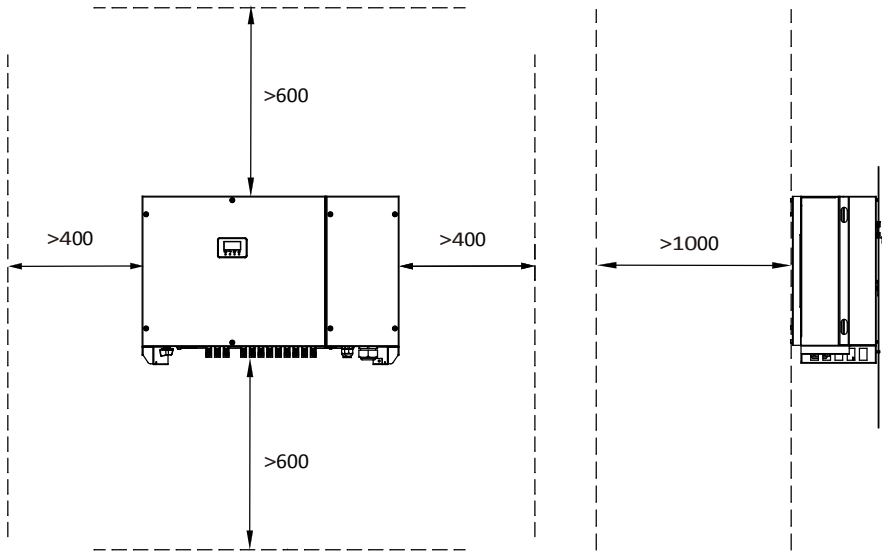

Figure 4.3 Installation space requirements (unit: mm)
- ① It is recommended that the inverter be installed at eye level to facilitate operation and maintenance.
- ② Reserve enough clearance around the inverter to ensure sufficient space for installation and heat dissipation, as shown in Figure 4.3.